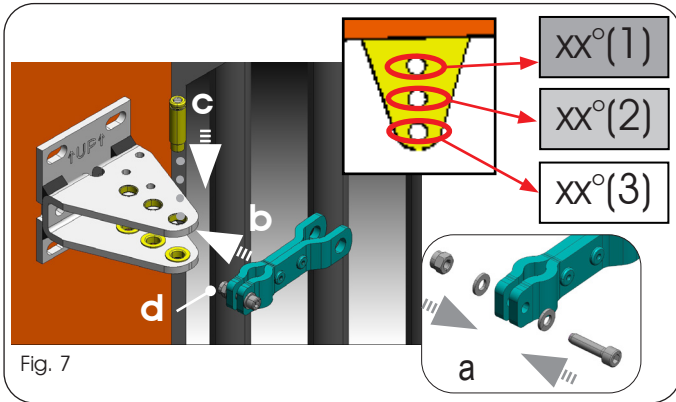

Fig. 7
2. Pre-assemble the fork (Fig. 7 ref. a) without tightening the nut. After choosing the hole on the rear bracket (see Table 1, white or grey boxes), install the fork (Fig. 7 ref. b). Secure in place by inserting the special pin supplied (Fig. 7 ref. c), then tighten the nut (Fig. 7 ref. d).